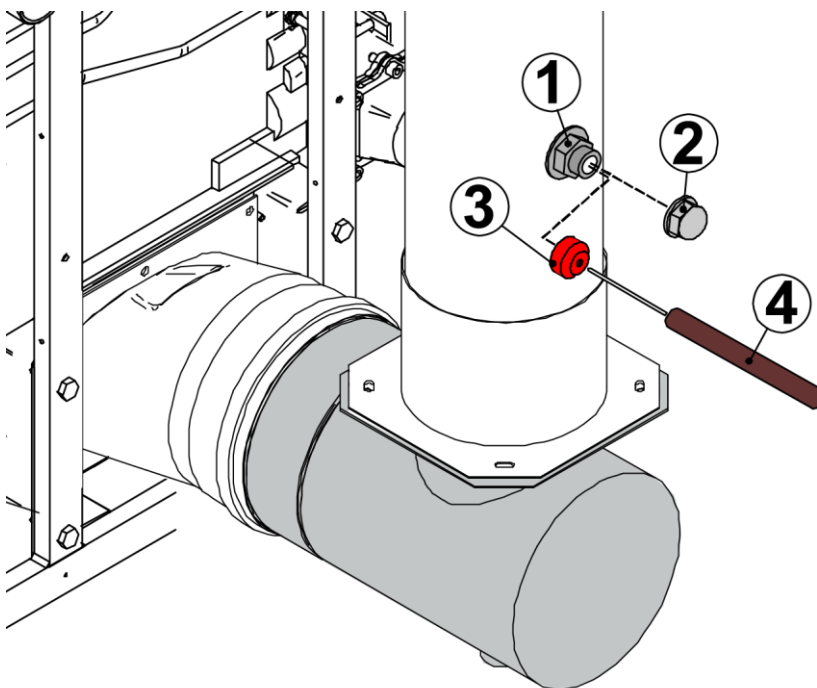
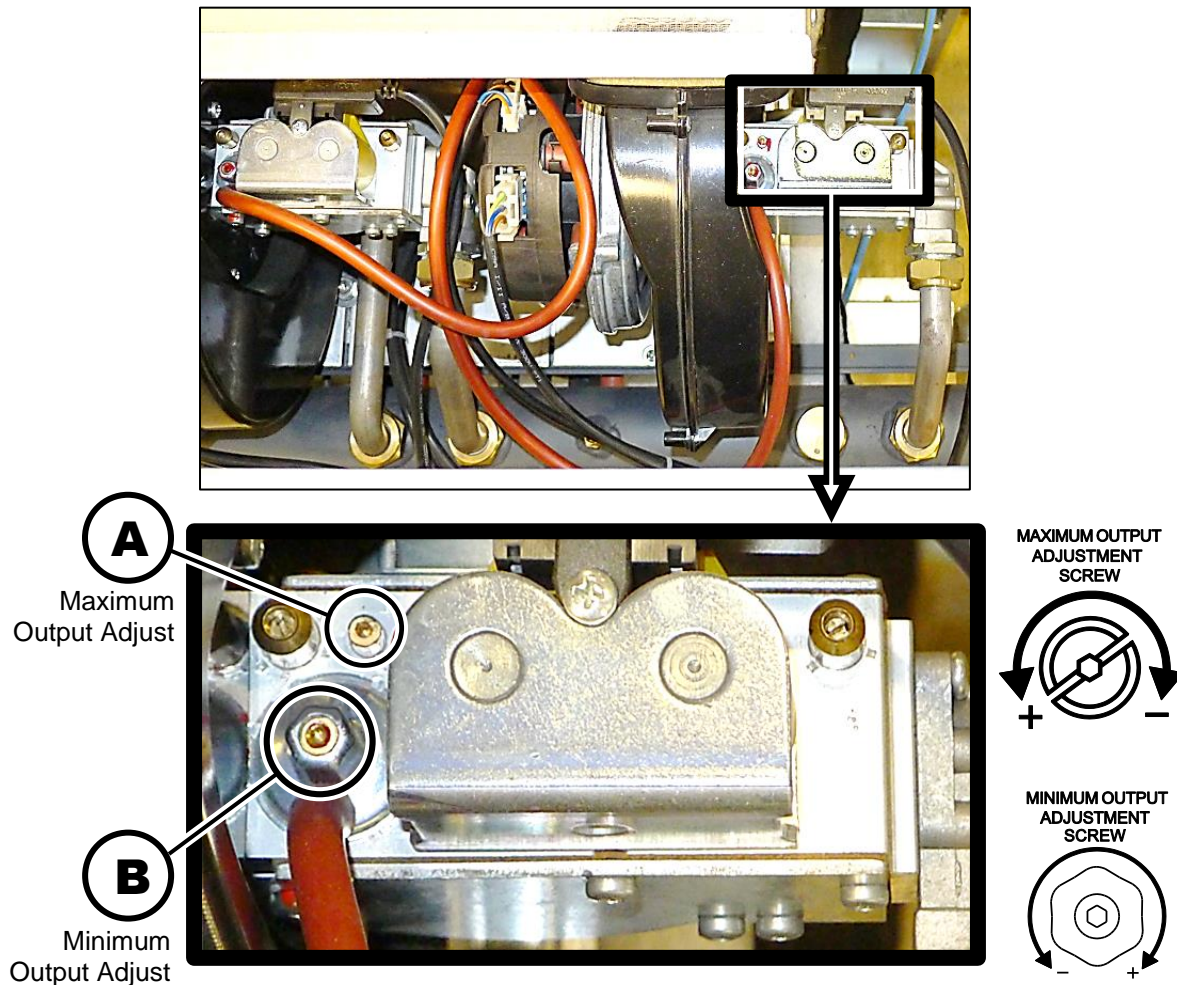

Figure 4-37: Gas Analyzer Probe Location in Flue Outlet
Figure 4-38: Location of Minimum and Maximum Adjustments (Top View)
Before making adjustments, a gas analyzer sensor probe must first be installed into the flue exhaust outlet as shown in Figure 4-37.
After installing the gas analyzer probe (Figure 4-37), refer to Figure 4-38 to locate the gas valves and the Maximum Gas Adjustment screw (A) on each valve. Follow the instructions below to set the maximum gas output level for each valve.
1. Remove the cap of the combustion gases sampling point (Figure 4-37) and connect a suitable gas analyzer.
After setting the maximum gas output for each valve (section 4.35.2), refer to Figure 4-38, above, to locate the Minimum Gas Adjustment screw (B) on each valve. Follow the instructions below to set the minimum gas output level for each valve.